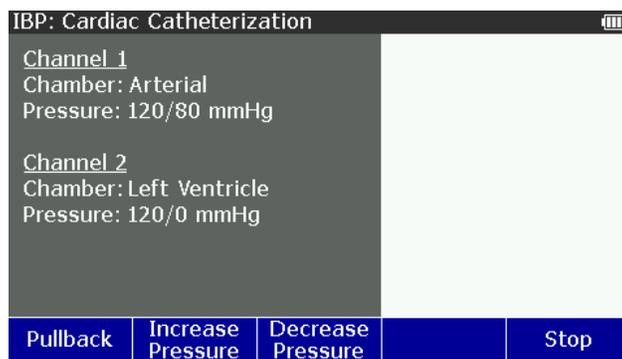

Figure 21. Aortic Valve Catheterization Simulation Screen
When you push the **Stop** softkey, the procedure simulation is stopped, and the initial test screen shown in Figure 21 shows in the display.
1. Push the **Insert** softkey to simulate the insertion of IBP channel 2 catheter into the left ventricle at 120/0. Figure 21 shows the screen for the aortic valve catheterization simulation.